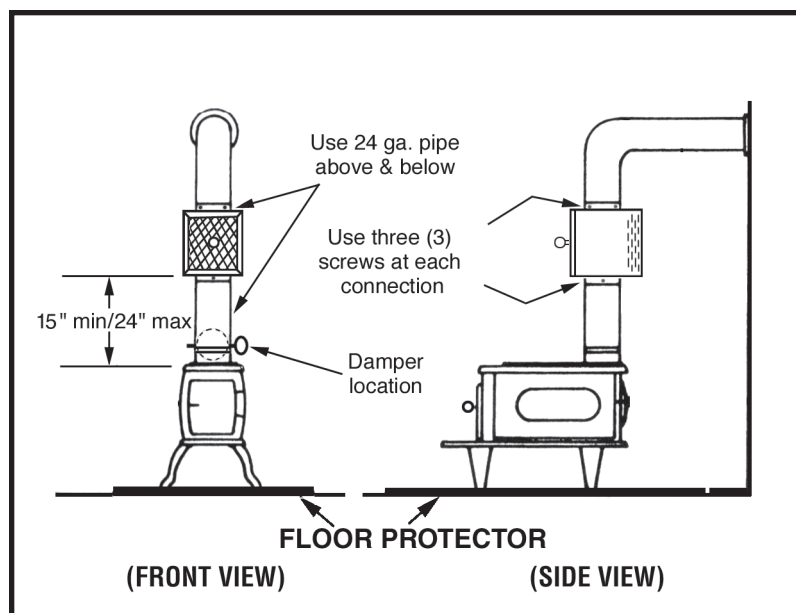

Figure 2
1. The installation of this unit must comply with your local building code rulings. Please observe the clearances to combustibles (fig. 2).
2. If you have determined your chimney to have an inadequate draft, overcome that deficiency before installing your Heat Grabber. Your chimney should be capable of developing at least 0.06 w.c. (measured in water column) draft before installing a Heat Grabber. After installation, the chimney should develop at least 0.045 w.c. as measured below the Heat Grabber. All stove pipe above or below your Heat Grabber must be 24-gauge or heavier to provide adequate support. Any horizontal run of pipe must pitch upward toward the chimney at least 1/4" per foot of horizontal run. All stove pipe and/or elbow joints must be secured by at least **three (3)** sheet-metal screws.
10. The Heat Grabber should be installed as close to the flue outlet as possible, but no closer than 15" from the top or back as shown in figure 2.
12. Use at least **three (3)** sheet metal screws at each connection to secure the Heat Grabber to the flue pipe.